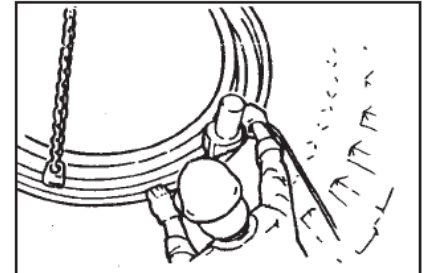

Figure 4
4. Stand to one side of the bead breaker. Hold the bead breaker with one hand. (See Fig. 4)